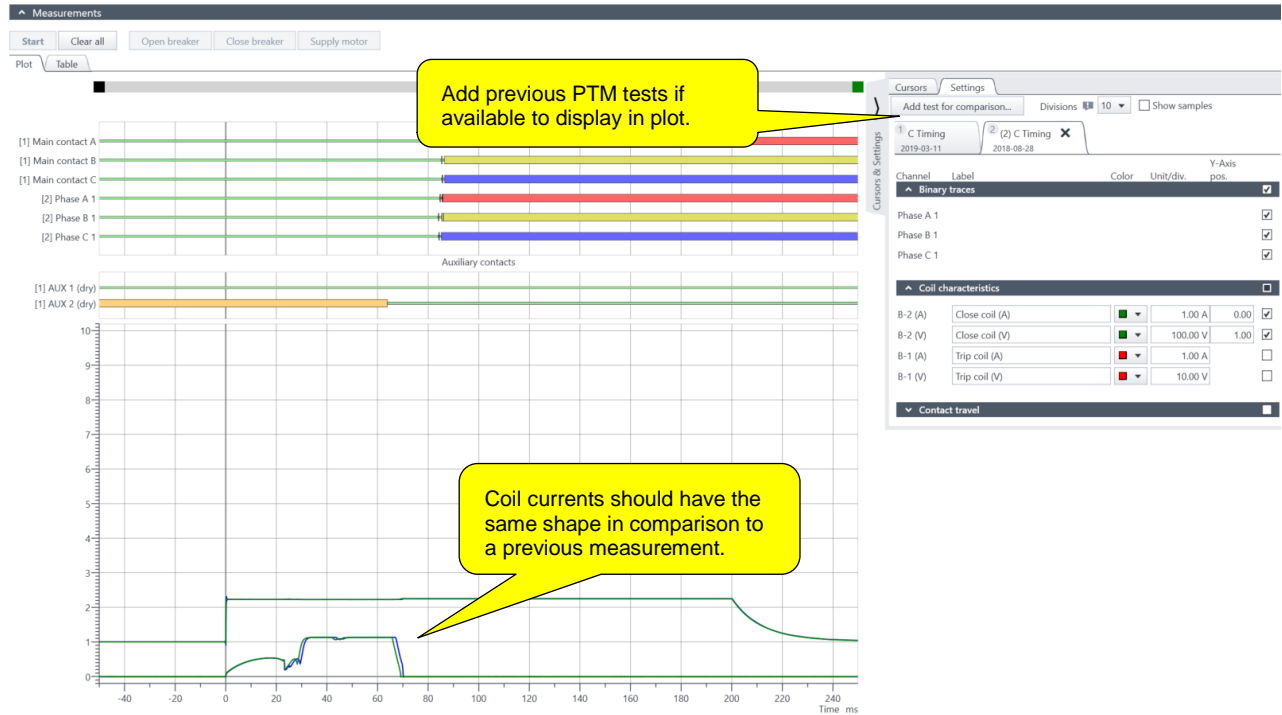
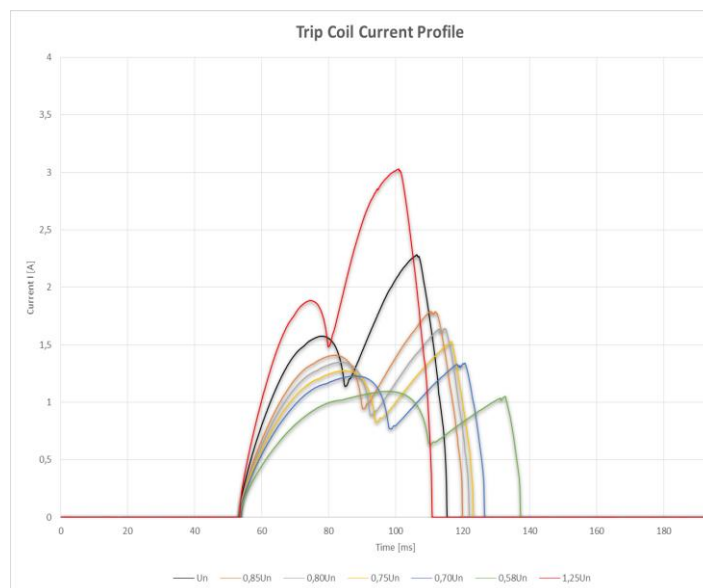

Figure 38: Measurement Section C-Timing Comparison Example
Figure 39: Example of results of under voltage test for Trip Coil
The coil current allows us to test the performance of the control circuit. It helps identify insufficient lubrication (e.g. sticky plunger), assess command coil performance, auxiliary contacts, and latch operation. We can use the plot to visually assess the "Coil Signature" by comparing to a previous measurement as shown below and trending any change over time (Fig.38).
The under-voltage test, allows us to test the performance of the control circuit. The timing tests should pass at the minimum voltage designated in the operating voltage range of the trip or close coil (see circuit breaker nameplate for voltage range). To perform this test, repeat the (O) or (C) timing tests at a reduced voltage to check the timing performance with under-voltage. For a visual comparison you can import the previous test using the comparison tool as shown in (Fig.38). An example of the results at different voltages is shown in Fig.39.